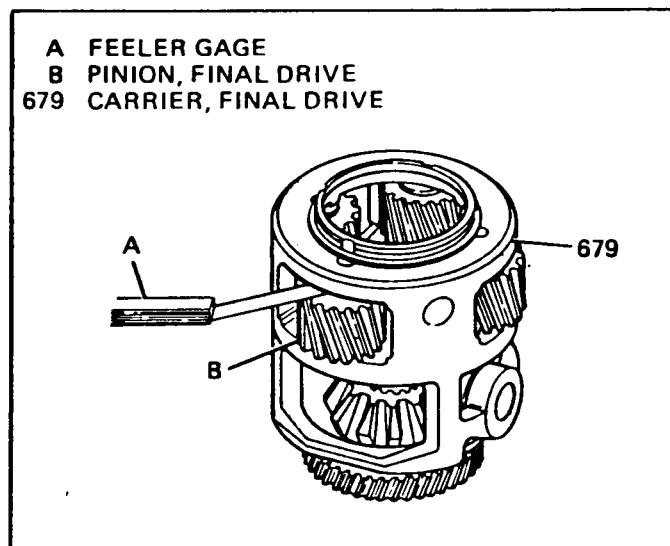

Figure 65
- * Final drive pinions for damage or wear. Check for excessive end play using a feeler gage. End play on the pinions should be .009" - .025" (Figure 65).